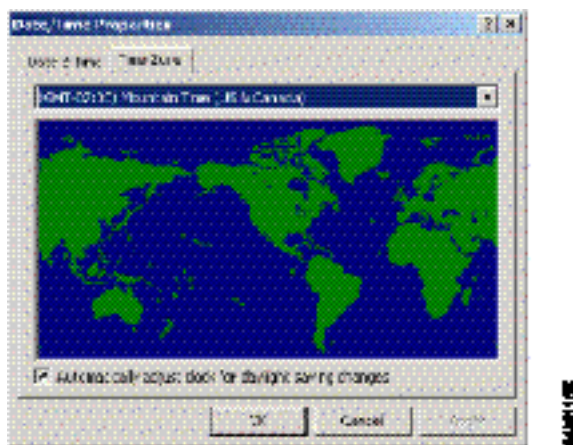

Figure 2-21 Date/Time Properties Dialog Box (Time Zone Tab)
2. Click the *Time Zone* tab. The *Date/Time Properties* dialog box appears with the *Time Zone* page open (Figure 2-21).